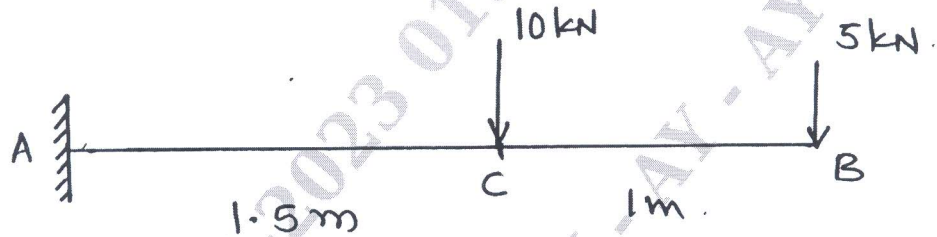

Fig.Q6(b)
b. Determine the slope and deflection at the free end of a cantilever beam as shown in Fig.Q6(b) by moment area method. (Take $EI = 4000\text{kN m}^2$).